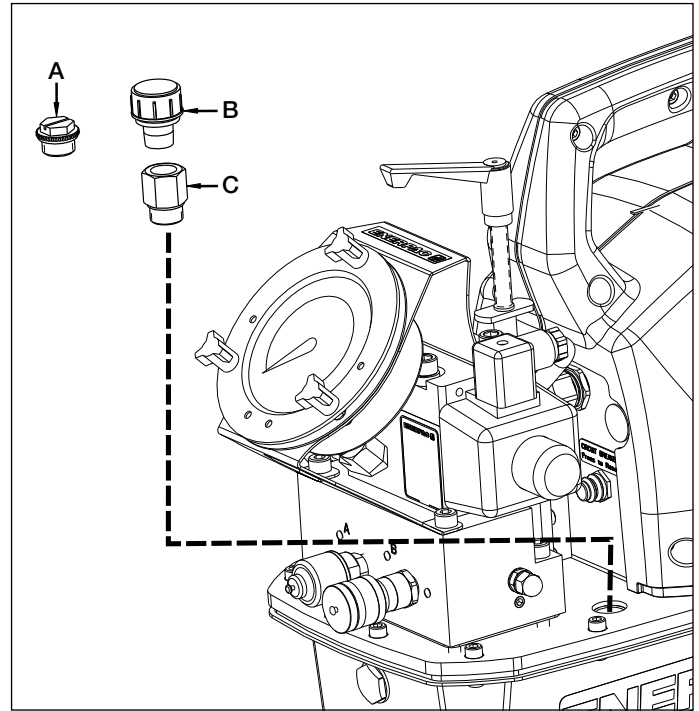

Figure 2, Breather Installation
4.1 Breather Cap and Oil Fill Plug (See Figures 2 & 3)